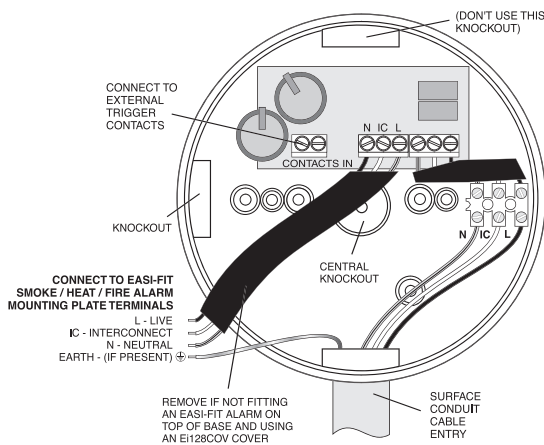
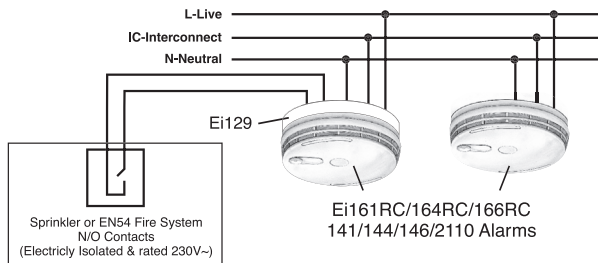

Figure 1- Ei129 Model
Figure 2
2.1.3 Screw the Ei129 Module to the ceiling after first removing the required knockout and bring the house wires through it (see Figure 1). If the central rear knockout is being used, seal around the wires with silicone or similar to prevent air draughts affecting the smoke or heat entering the alarm.
2.1.4 Connect the wires from the alarms (L – Live, N – Neutral, and IC – Interconnect) to the terminal block on the Ei129 Module as shown in Figure 1. Make the wiring connections as shown in Figure 2.
2.2.2 Connect the wires from the alarms (L – Live, N – Neutral, and IC – Interconnect) to the terminal block on the Ei129 Module as shown in Figure 1. Then connect the two wires from the external N/O contacts to the “CONTACTS IN” terminals.
2.2.3 Important: Now remove the three short, sleeved wires from the central terminal block on the circuit board on the Ei129 as they are now not needed (see figure 1). This is essential to prevent them shorting and damaging the alarms or blowing fuses.